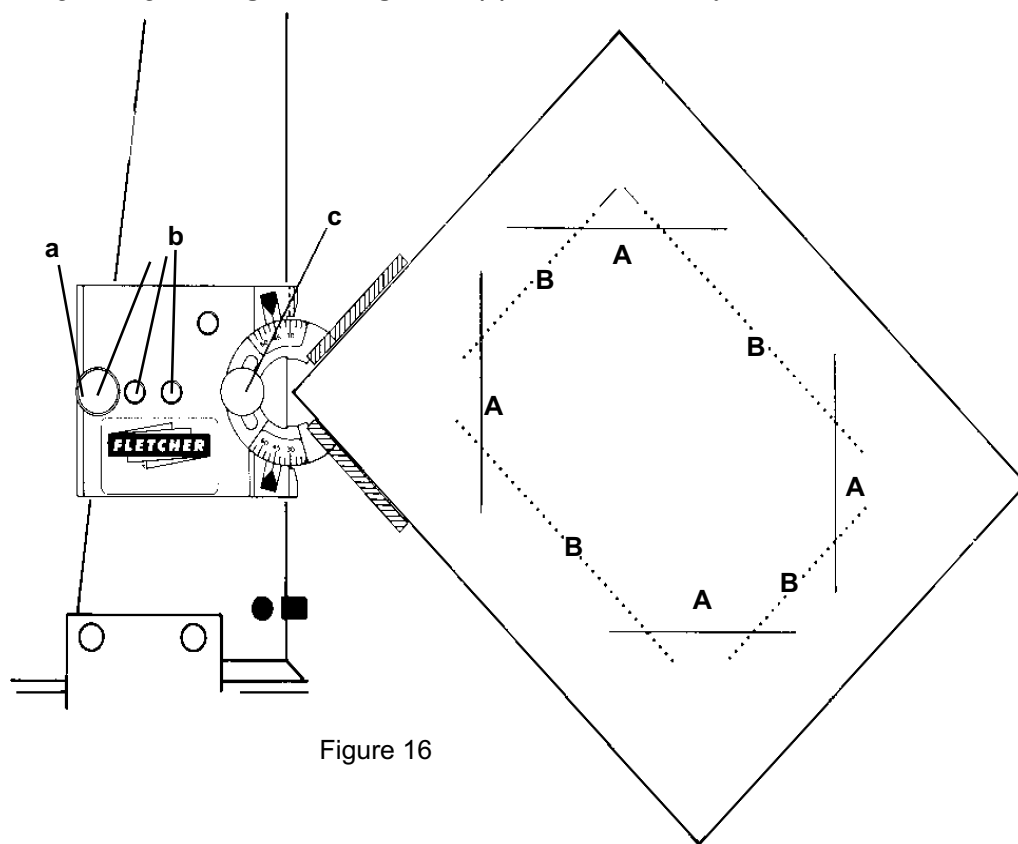

Figure 16
It is simple to attach the **Angle Mat Guide** to the **Mat Guide** on your Fletcher 2200. Refer to Figure 16. The **Locking Pin (a)** can be placed in any of the three holes **(b)**. Selecting the hole on the left will locate the **Angle Mat Guide** at the lower end of the **Mat Guide** for smaller mats, up to 8" X 10" (200mm X 250mm). Using either of the next two holes to the right will locate the tool toward the upper end of the **Mat Guide** for large mats.
1. Figure 16 illustrates a simple 45 degree corner cut opening in an 8" x 10" (200mm x 250mm) mat. Mark pencil lines on the back of the mat in the conventional way starting with the **Mat Guide** set at 1-1/2" (38mm) as shown by lines labelled **B**.